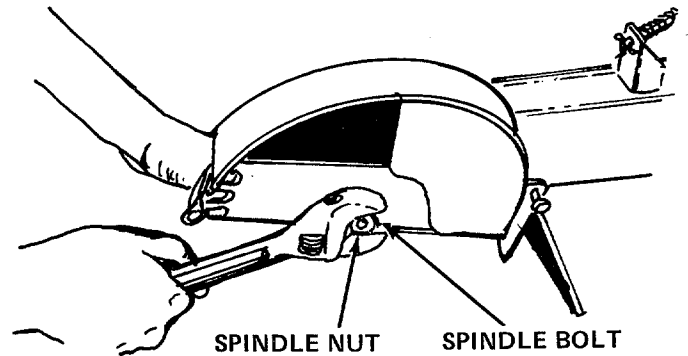

FIGURE 13
**Blade Removal** - Hold head of spindle bolt with a 3/4" or adjustable wrench and remove spindle nut. See figure 13.